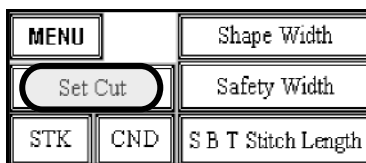

Figure 31
11.2 Setting from menu setting. Press **Setting** (See Figure 31,32,33)